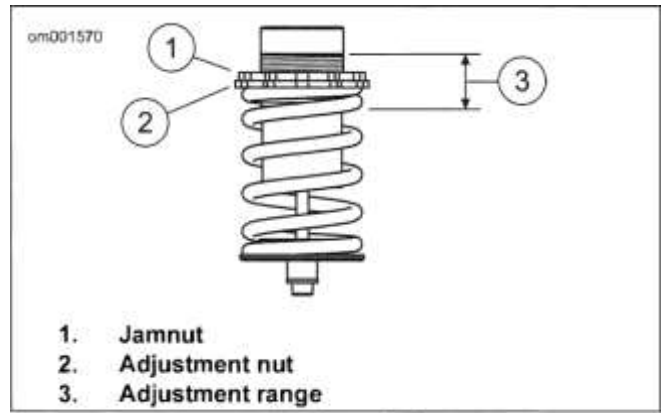

Figure 3-175. Seat Adjustment
- Range of adjustment (3) must be kept within 0.7-1.1 in (17.7-27.7 mm) as measured from the top of the shock absorber to the top of the jamnut. Settings outside this range may result in failure of the suspension components.
See Figure 3-175. Loosen jamnut (1).
2. Rotate adjustment nut (2) clockwise to compensate for a heavier rider. Each full rotation equals the specified amount of rider weight.
1. See Figure 3-175. Install seat bracket mount using two screws (2). Tighten.